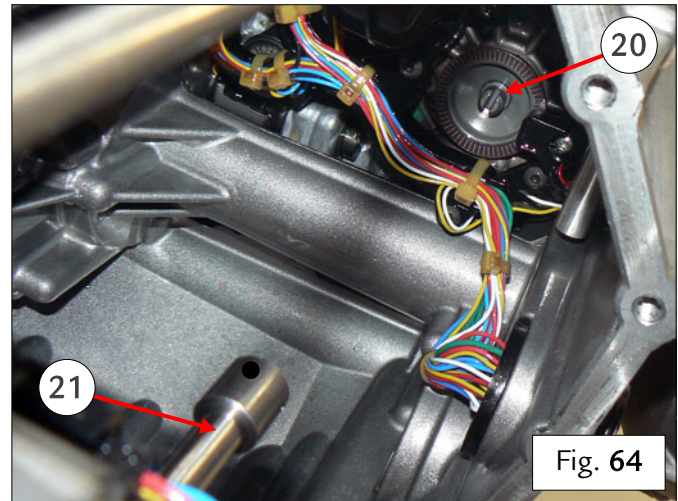

Fig. 64
- Rotate the clutch to align the respective seats of the shaft (21) and the oil pump (20) – Fig. 64.